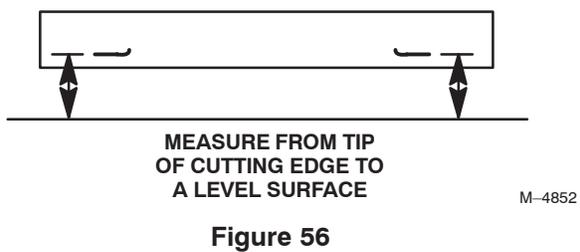

Figure 56
- Measure the distance from the end of the blade (N1) to the ground (Fig. 56).
- Measure the distance from the end of the blade to the ground (Fig. 56).